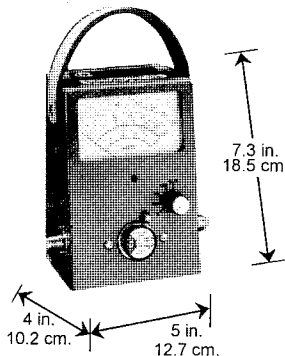

Figure 1 Wattmeter Overall Dimensions
3.1 Direct Installation - Connection may be made directly to the quick match RF connectors mounted on the internal line section. Make connections with any suitable coaxial cable of 50 ohm impedance. Connect the power source to one side of the wattmeter and connect the load to the opposite side. Power source and load can be connected interchangeably, since the direction of the detector element selects whether forward or reflected power will be sensed by the meter. Refer to Figure 1 for dimensions of the wattmeter unit. Use only 50 ohm impedance cables for making connections to the wattmeter unit. Impedance mis-match can introduce inaccuracies in the power reading. Calculations of inaccuracies resulting from impedance mis-match are discussed in paragraph 4.1 on page 9.